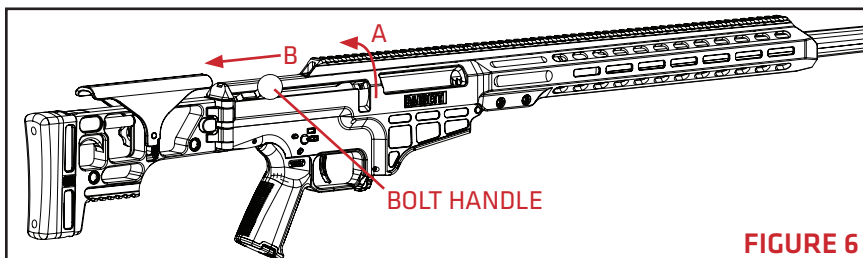

FIGURE 6
3. With the rifle pointed in a safe direction, lift the bolt handle (**FIGURE 6-A**) then pull it to the rear of the rifle (**FIGURE 6-B**).